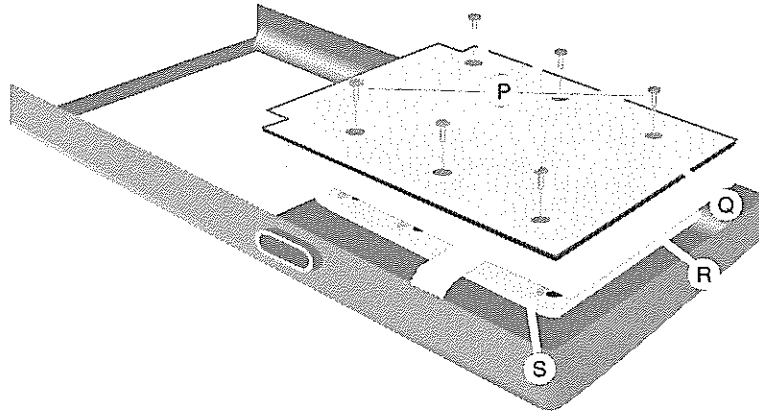

Figure 6-6. Removing the Keyboard
3. Loosen the six screws "P" holding the keypad plate "Q" to the top cover. See Fig. 6-6.